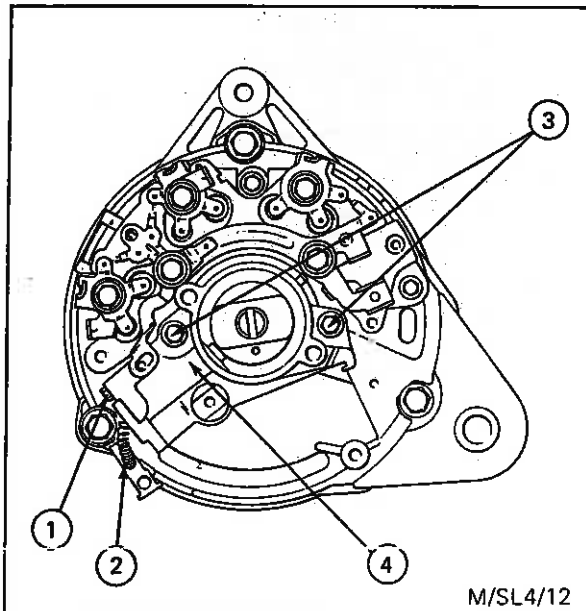

Fig. 15 - Removing the Brush Box
4. Remove the top brush spring plate screw (1) and withdraw the brushes (2). Remove two screws (3) and detach the brush box (4) - see Fig. 15.